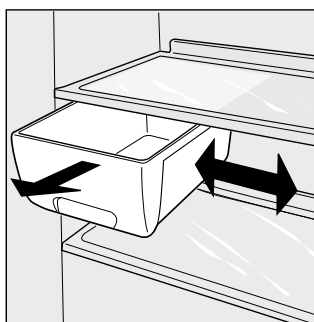

Fig. 4
- To use the meat/cheese box, unhook it and remove it from the shelf. To optimise space according to your needs, the same can be moved laterally (Fig 4).